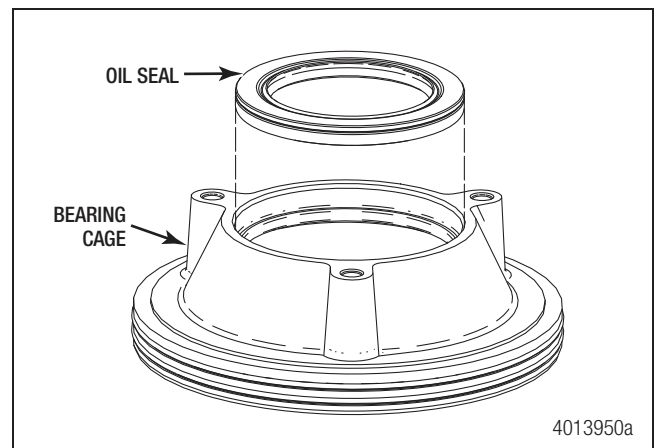

Figure 6.10
3. Remove the oil seal assembly from the bearing cage. Figure 6.10.